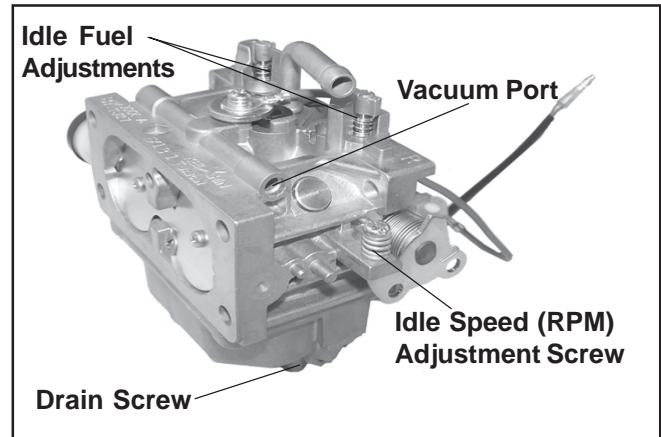

Figure 25. Keihin Two-Barrel Carburetor.
These engines use a Keihin BK two-barrel carburetor with fixed main jets, and fixed or limiter-equipped low idle fuel adjusting needles. See Figure 25. In compliance with government emission standards, the carburetor is calibrated to deliver the correct fuel-to-air mixture to the engine under all operating conditions. Adjustments are made as follows.
1. **Low Idle Speed (RPM) Setting:** Place the throttle control into the **idle** or **slow** position. Hold the governor lever away from carburetor so the throttle lever is against the Idle Speed (RPM) Adjustment Screw of carburetor. See Figure 25. Set the low idle speed to **1200 RPM*** (± 75 RPM) by turning the low idle speed adjusting screw on carburetor **in** or **out**. Check the speed using a tachometer.